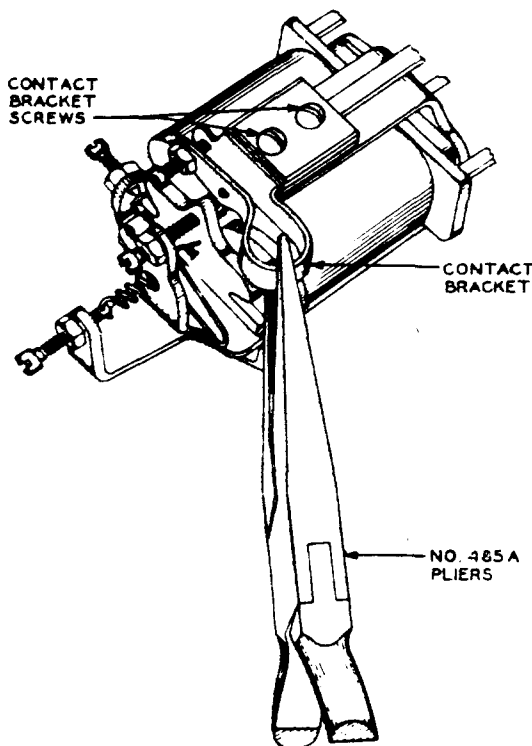

Fig. 7 - Method of Aligning Contacts Vertically
- (2) If the contacts are out of line vertically, force the contact bracket slightly upward or downward as necessary using the No. 485A pliers as shown in Fig. 7. Then move the armature upward and downward to check that the contacts are in accordance with 2.08.